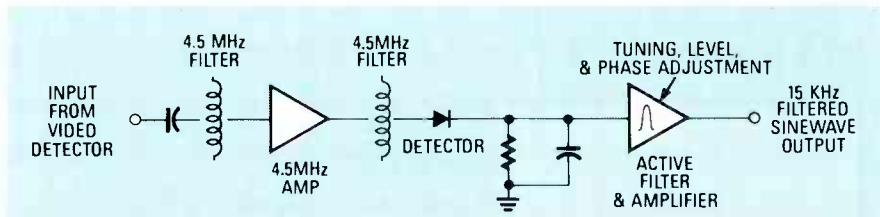

FIG. 3—THIS BLOCK DIAGRAM shows the system used to recover the descrambling sinewave required by a sinewave decoder.
The frequencies used by communications satellites are also located in the SHF part of the spectrum. Because, with their relatively short wavelengths, microwaves act like light, they can be treated like light. The familiar satellite dish (see Fig. 3) is actually the radio equivalent of a reflecting telescope. The purpose of the dish in a receiving installation is to collect the microwave signals coming from a satellite transponder and focus them on an antenna (called a probe) located at the dish's focal point (within a feedhorn). Similarly, in a transmitting set-up, the
**FIG. 3—BECAUSE THEY HAVE PROPERTIES similar to those of light, microwave signals can be collected and focused on an antenna element by a metallic surfaced reflector. That property is the basis of the satellite dish. The satellite dish is the radio equivalent of the optical reflecting telescope.**
Figure 3 shows a block diagram of a circuit that could be used to recover the decoding sinewave. The 4.5-MHz sound subcarrier is taken from the video detector. It could also be taken from the TV set's sound/sync detector, if the set has one (not all do), or, if possible, from the sound IF *before* limiting has taken place.